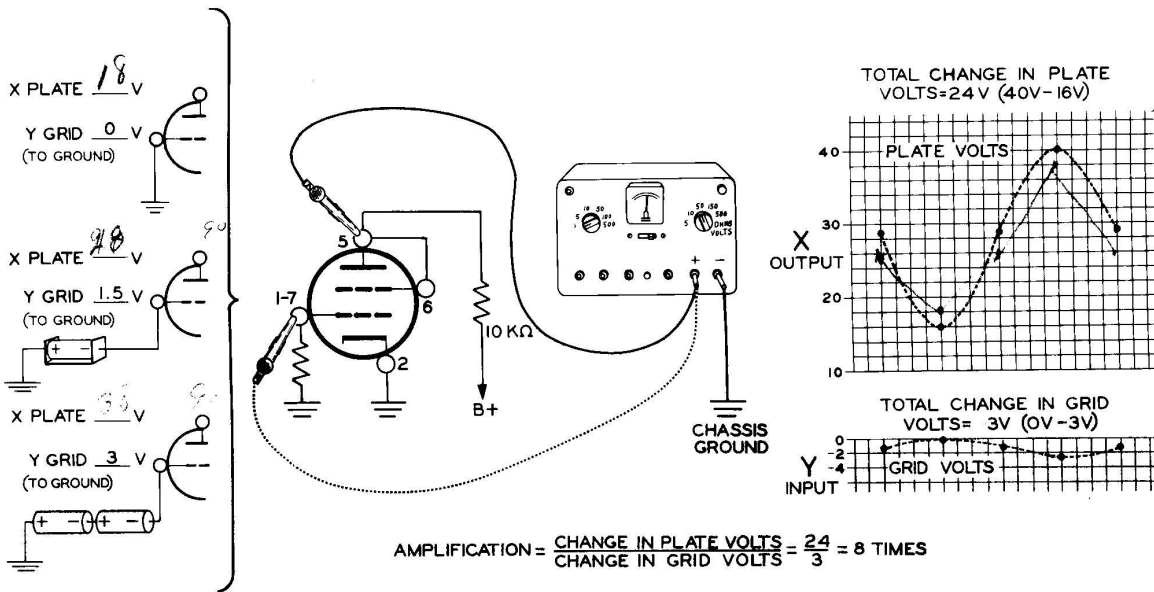

Figure 3W
Figure 3W shows the 6AQ5 pentode connected as a triode. The screen grid of the tube, pin 6, has been connected to pin 5 (the plate of the tube). This makes the tube act like a triode (the suppressor grid will not be able to perform in its normal manner).
In this experiment, 1-1/2 volt batteries connected to the grid of the triode will be used to simulate a signal at the grid. Changing the number of batteries (and therefore the voltage) at the grid, changes the plate current just as an AC signal would. The three voltages at the grid (input), indicated by the letter Y, are plotted on Graph Y at the lower right of the meter in Figure 3W. The three voltage readings at the plate (output), indicated by the letter X, are shown in Graph X to the right of the meter.
- () Connect the negative lead of a flashlight cell to pin 1 of the 6AQ5 (S). Connect the positive lead of this flashlight cell to the chassis of the EK-2 (S).
- (✓) Connect a second flashlight cell in series with this first flashlight cell, by connecting the negative lead of the new cell to pin 1 of the 6AQ5 socket (S). Connect the positive lead of the new cell to the negative lead of the first cell (S).
- () Now mark a dot for each of your voltage readings in the proper positions in waveform X of Figure 3W. Mark the dot that represents the middle voltage reading down three times just as in the waveform now indicated on Graph X. Now connect your five dots together to give you the correct simulated sine wave for your amplifier stage.